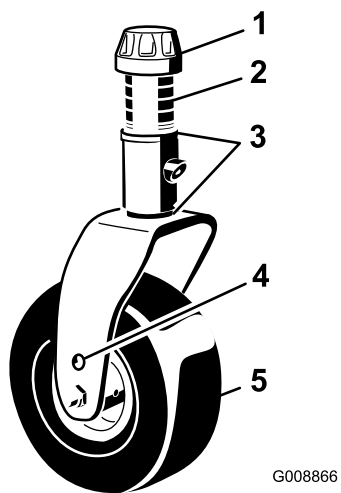

Figure 92
1. Remove the tensioning cap from the castor spindle shaft and slide the spindle out of the castor arm (Figure 92). Reposition the shims, as required, to raise or lower the castor wheel until the cutting unit has the correct pitch.